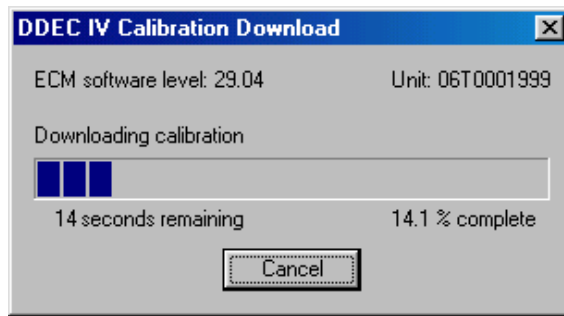

Figure 8
5. The calibration will be downloaded to the ECU. (Figure 8)